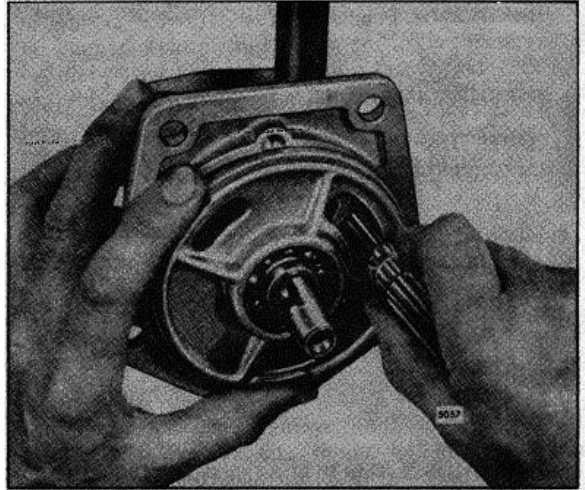

Fig. 4 · Removing Fork from Operating Shaft
4. Lift up on the weight shaft until there is enough clearance for a 5/16" socket wrench to be placed on the screws that hold the fork to the operating shaft (Fig. 4). Then remove the two screws and washers.